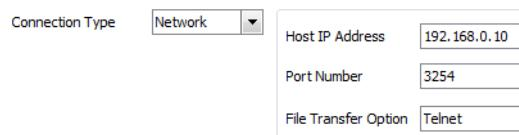

Figure 148 RTAC Connection
Step 17. Select the **Connection** tab, choose **Network** as the Connection Type, and enter the **Host IP Address** and **Port Number** of the RTAC, as shown in *Figure 148*. The Port Number should match the **Server IP Port** configured in ACCELERATOR RTAC in *Step 4* of *Part 1: Configuration in ACCELERATOR RTAC*.